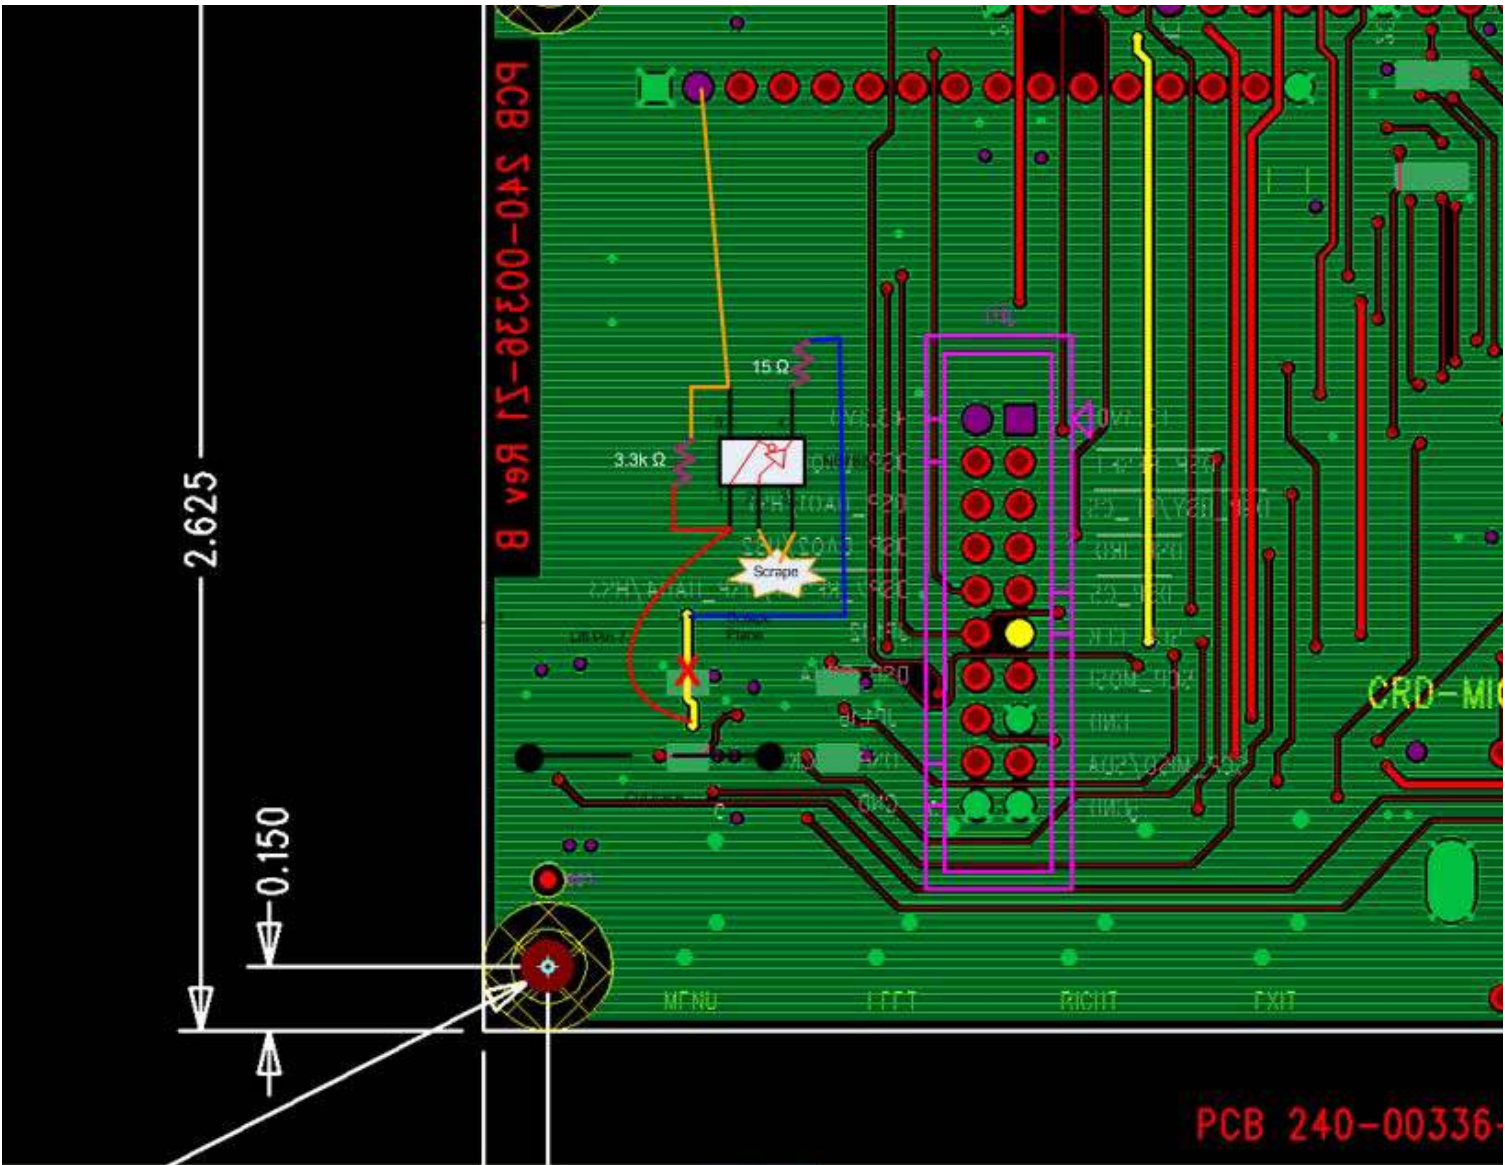

Figure C-1. Appendix D Modifications Shown on the Actual Board Layout
5. Connect 15 Ω resistor to Pin 4 of the NC7SZ125 buffer and the other end of resistor to exposed end of cut trace closest to J4.2 in Figure C-1
Figure C-1 shows the modifications made in Steps 1 to 5 on the actual board layout.